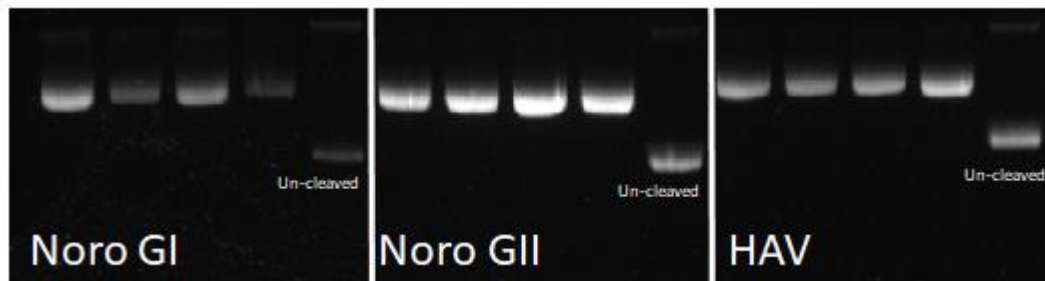

Fig. 2. Appearance of gel bands, linearised plasmid (four wells) and un-cleaved control (one well) for norovirus GI, GII and HAV
- Linear gel bands should appear as indicated in Fig. 2